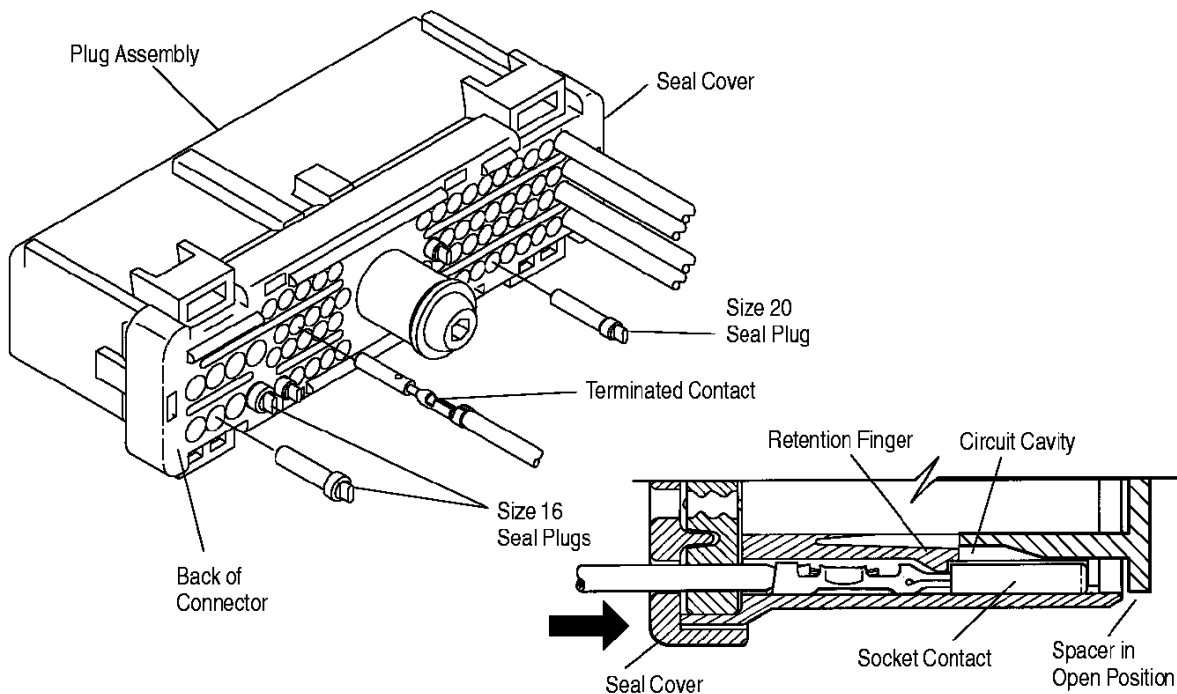

Figure 2
The back of the connector must be completely sealed. Those cavities that are not used must have individual seal plugs. Use seal plug 776363-1 for size 16 holes, and seal plug 776364-1 for size 20 holes. See Figure 2.
Check to be sure the plug spacer is in the *open*, or as-shipped position. See Figure 2. Proceed as follows:
1. To insert a terminated contact, push it straight into the appropriate circuit cavity as far as it will go. See Figure 2.